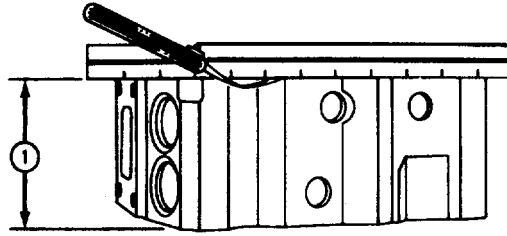

FIGURE 4-9. Head Gasket Surface Measurement.
- The head can be resurfaced as long as the thickness (1, FIG. 4-9) is at least 4.715 inch (119.76 mm) after the head is resurfaced.
- (16) Use a straight edge and a feeler gauge to measure the flatness of the head gasket surface (FIG. 4-9). The head must be resurfaced if a feeler gauge larger than 0.003 inch (0.08 mm) will fit between the straight edge and the cylinder head.